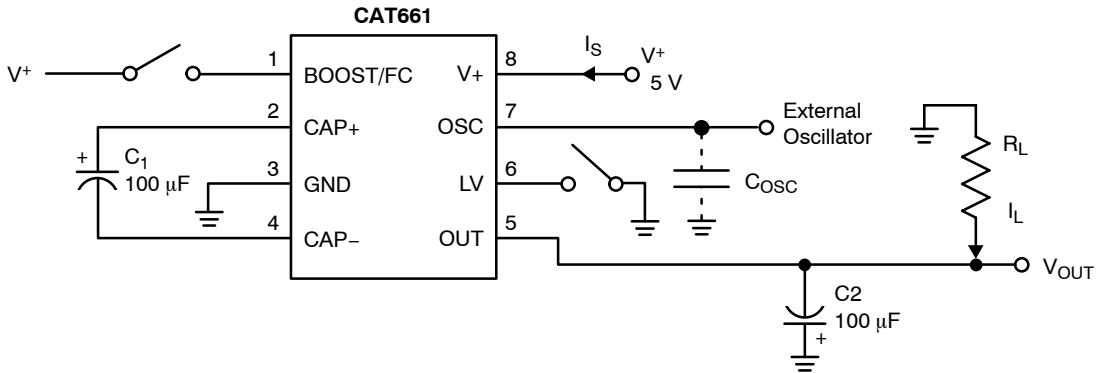

Figure 3. Test Circuit Voltage Inverter
Table 3. ELECTRICAL CHARACTERISTICS (V+ = 5 V, C1 = C2 = 100 μF, Boost/FC = Open, C_{OSC} = 0 pF, and Test Circuit is Figure 3 unless otherwise noted. Temperature is T_A = T_{AMIN} to T_{AMAX} unless otherwise noted.)
- In Figure 3, test circuit electrolytic capacitors C1 and C2 are 100 μF and have 0.2 Ω maximum ESR. Higher ESR levels may reduce efficiency and output voltage.
(Typical characteristic curves are generated using the test circuit in Figure 3. Inverter test conditions are: $V_+ = 5\text{ V}$, $LV = \text{GND}$, $\text{BOOST/FC} = \text{Open}$ and $T_A = 25^\circ\text{C}$ unless otherwise indicated. Note that the charge-pump frequency is one-half the oscillator frequency.)